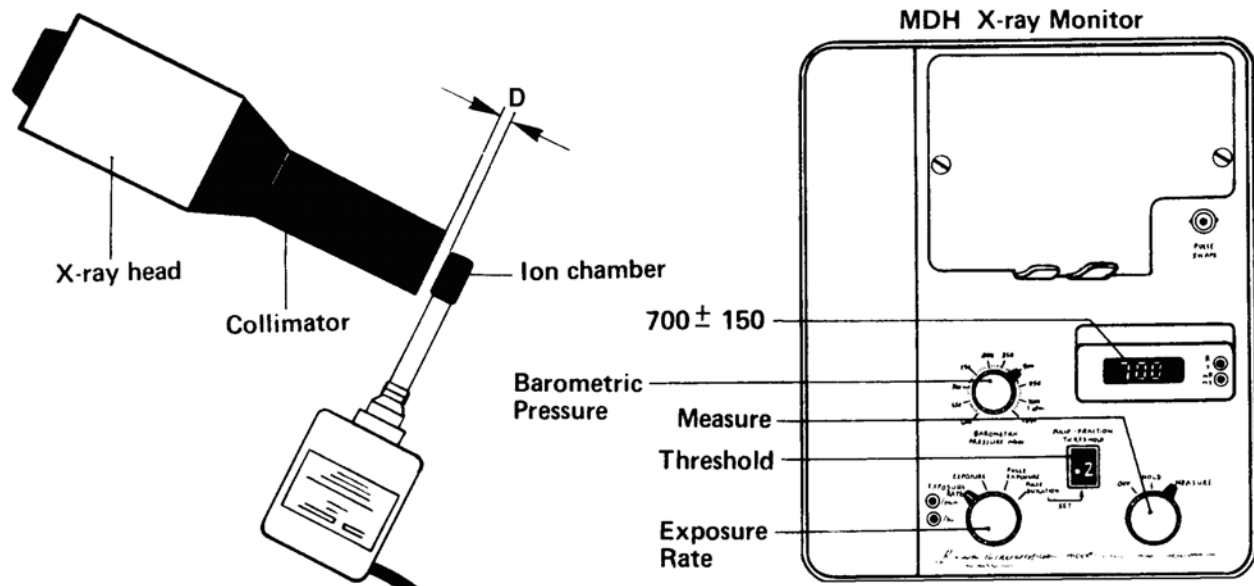

Figure 3-15. Dose measurement.
- b. If the exposure time pulse count is not within tolerance see Lesson 2, paragraph 2-5(1) and (2).
- c. If the dose levels are lower than specified, the X-ray head requires replacement. To measure the dose, follow these procedures. Refer to figure 3-15.
- (1) Set the exposure time to 1.0 sec.
- (2) Remove the lead cap from the collimator of the X-ray head.
- (b) Position the X-ray head to the ion chamber as shown in figure 3-15 (90° same central plane). For reproducibility, a special holding device with a radiation barrier can be used.
- (3) Make the following adjustments to the MDH X-ray monitor.
- (4) Make an exposure.
- (b) For reproduceability, note the distance (D) where the measured dose value is obtained.
- (5) If the dose levels are lower than specified above, you need to replace the X-ray head.